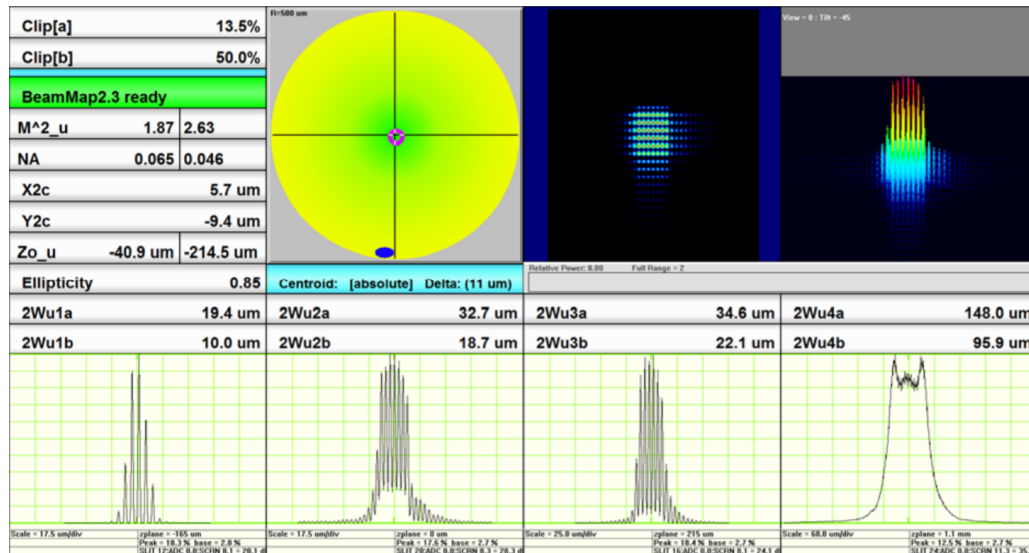

Figure 1: The software display after initial setup and centering of the beam
6. Turn on the laser. As soon as all profiles are visible, center the beam to within 100 μ m of the image coordinates (0, 0). See Fig. 1 for reference.